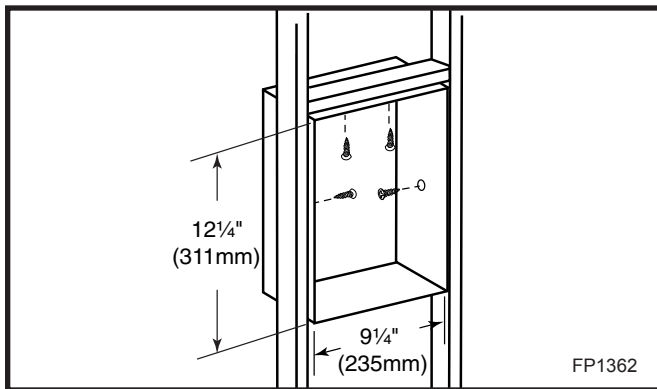

Fig. 7 Valve box framing.
6. To secure the valve box assembly to the framing members, open the box door, remove extension knob(s), remove the valve cover by removing the two (2) screws securing the valve cover to the box, hold the cover plate with one hand and disconnect the wires to the switch and pilot indicator (R models only). **NOTE:** Do not allow the valve cover plate to hang from the pilot indicator wires as this could damage the wires. Secure the box to the framing through the two (2) holes at the top and one (1) on each side using sheet rock screws. (Fig. 7) After framing the box, replace the wires, the valve cover, the extension knob(s) in reverse order. **NOTE:** The pilot indicator body is labelled +/-, make sure the positive wire on the pilot indicator goes to ground and the negative goes to the plug between the valve and the thermocouple.